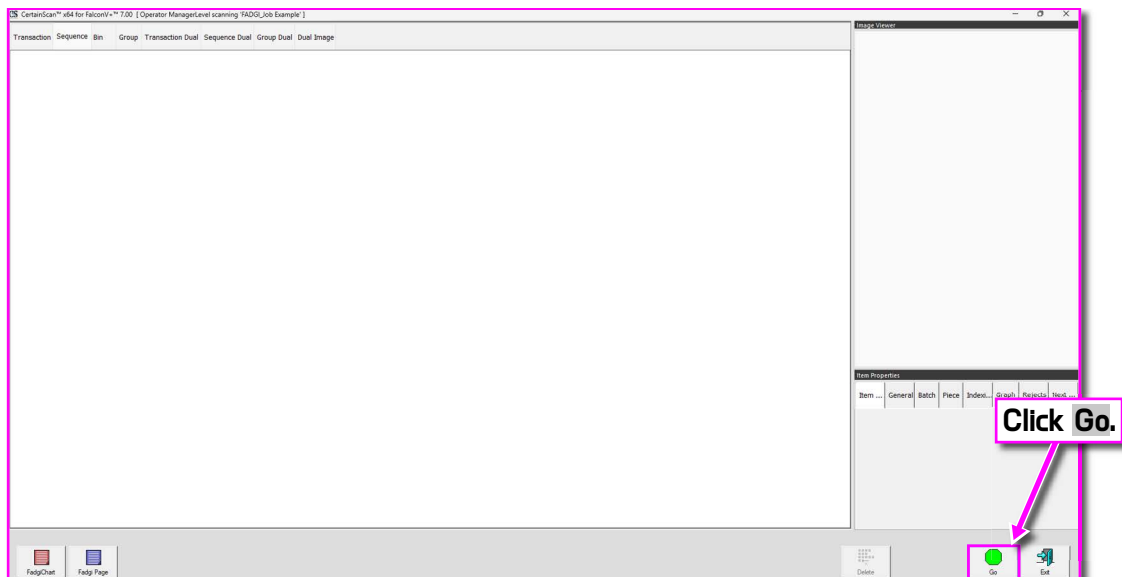

Figure 3-33: Click Go.
3. Click on the **Go** button (Figure 3-33).